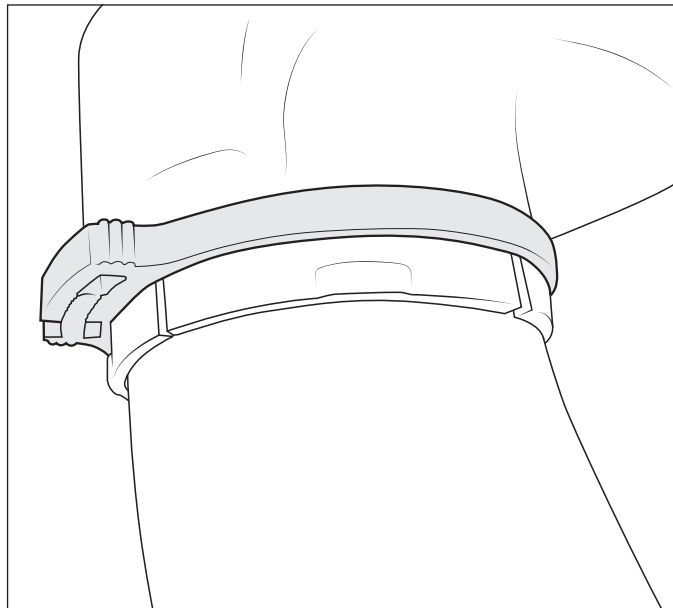

Figure 13
3. Install air ram with provided clamp and tighten until snug enough to prevent lifting or twisting of the air ram (fig. 13). Channel locks or large pliers may be helpful to get clamp tight enough for good retention.